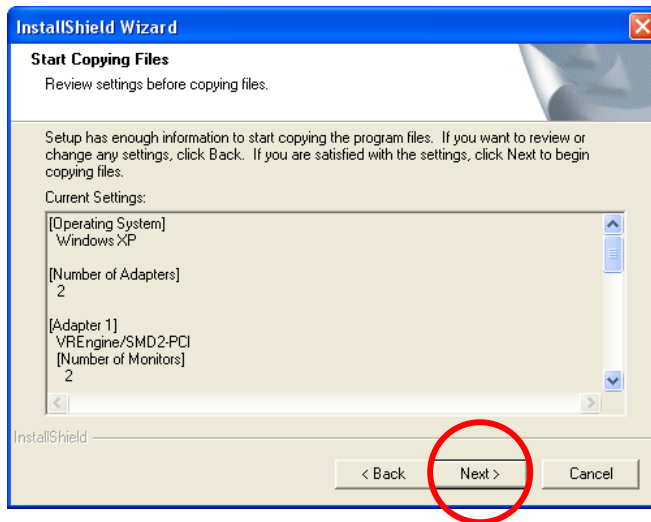

Fig. 14 Start Copying Files dialog
- The installer tries to match each connected monitor with its list of known monitor types. If it succeeds, it skips directly to the Start Copying Files dialog in *Fig. 14*. If it cannot match one or more monitors, the Monitor selection dialog will appear. Select the type of Monitor 1 from the list.